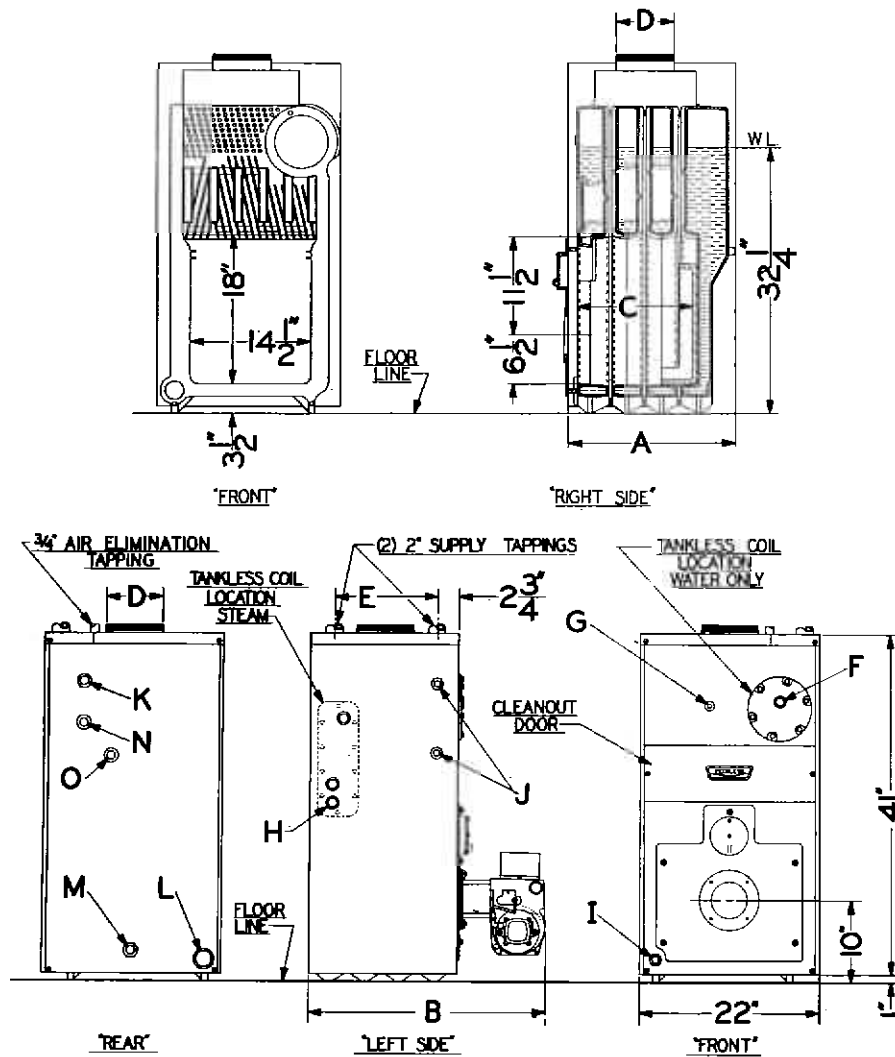
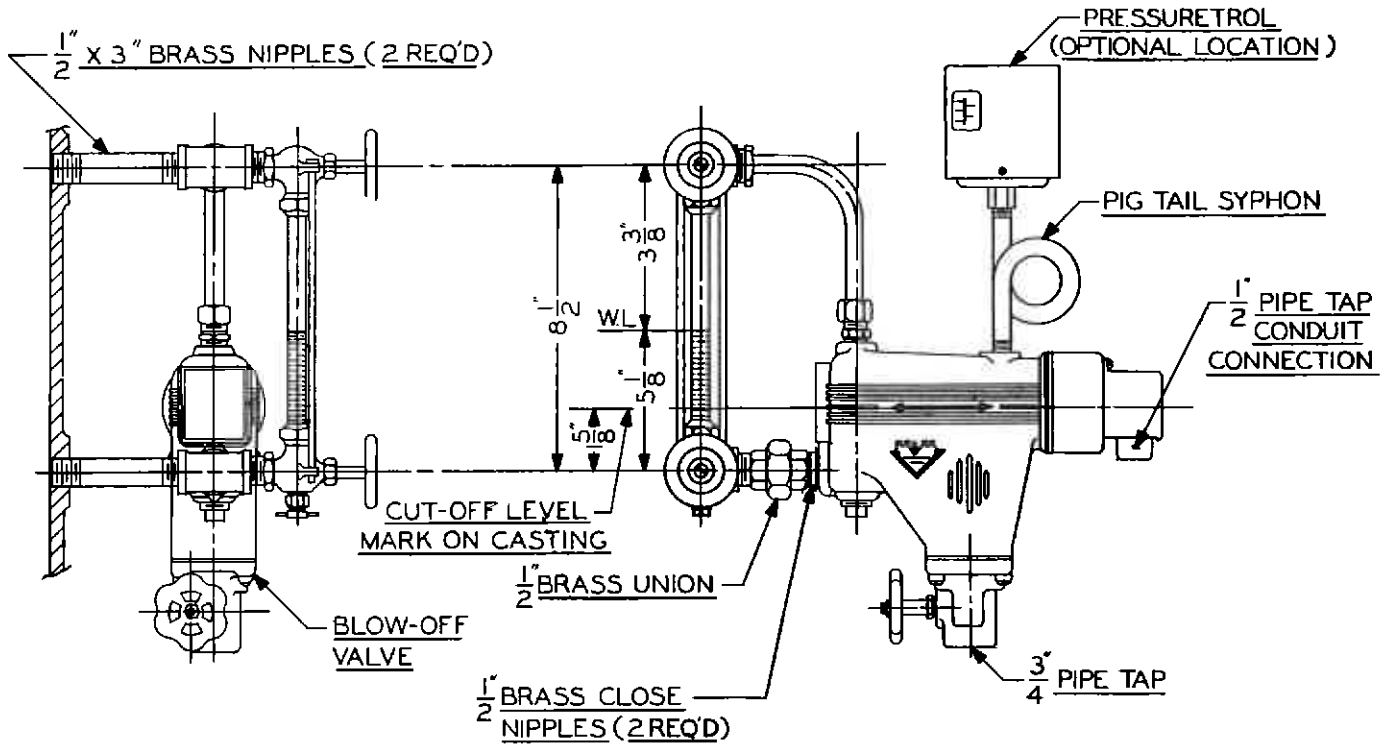

Figure 6
Figure 7
- 3—Install pressure gauge or therallimeter in tapping provided. See Figure 6.
- 4—Plug all open tappings in the boiler and fill with water. Apply approximately thirty (30) pounds pressure. Check to make certain that all joints and fittings are water tight.
- 5—After all joints and connections have been proven water tight, remove cold water supply and plugs from all tappings that are to be used. See Figure 6 for tapping locations.
Install the limit or operating control, theraltimeter and pressure relief valve. See Figure 6 for proper location.
Install pressure limit control, pressure gauge, gauge glass trim and pop safety valve. See Figure 6. For application of low water cut-off see Figure 7, and control manufacturers instruction sheet shipped with the control.